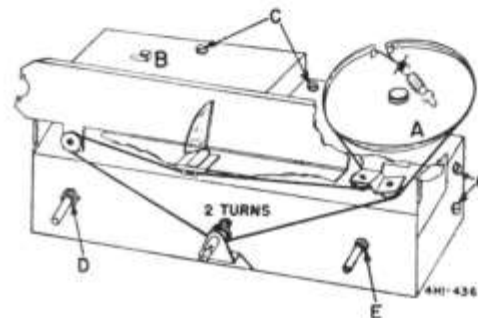

Figure 36. Radio Tuner Showing Chassis Cover and Dial Assembly.
- Remove the tuning knobs. Position the dial drum as shown in figure 36; unhook spring at "A"; and keeping tension on dial cord, hook it to tab "B".